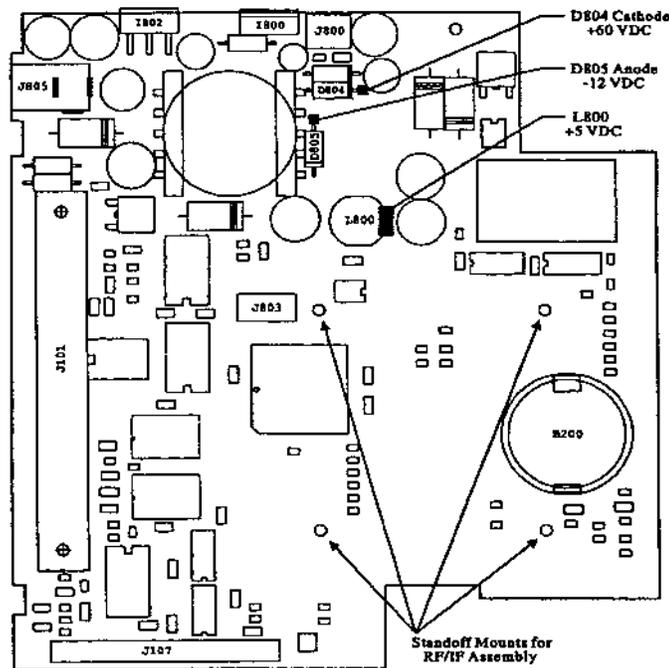

Figure 5. Main Board Testpoints (Top View)
1. Check the DC voltage between D805 and ground as shown in Figure 5. The voltage should be between -9.60 and -14.40. If the voltage is outside of these limits, replace the Main Board.
2. Check the DC voltage between L800 and ground as shown in Figure 5. The voltage should be between 4.8 and 5.2. If the voltage is outside of the limits, replace the Main Board.
3. Check the DC voltage between D804 and ground as shown in Figure 5. The voltage should be between 48.00 and 72.00. If the voltage is outside of these limits, replace the Main Board.